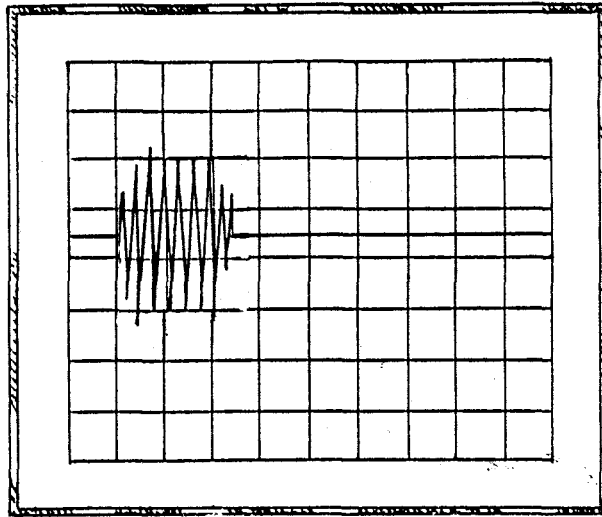

Figure 43
Enter the value of the measured delay time of the direct wave as the delay time (DT) parameter in GTM. Now set the aperture time (AT) equal to the transmitted pulse width, which for our example is 10 msec (0.010 sec). These settings of the timing parameters will cause the IE-30A analyzer to turn on when the direct wave arrives, and to turn off when the direct wave has passed. Figure 43 on the following page demonstrates the changed display which should occur on your oscilloscope CRT.